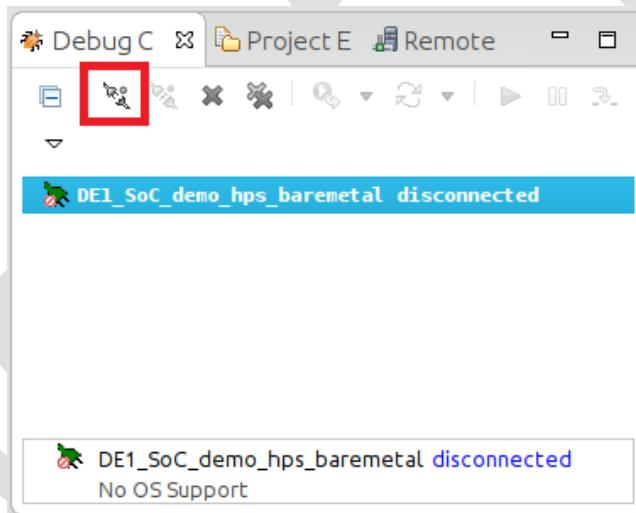

Figure 8-38. Debug Control View
31. In the "Debug Control" view, click on the "DE1\_SoC\_demo\_hps\_baremetal" entry, then click on the "Connect to Target" button, as shown on Figure 8-38. Our debug script will load and execute the preloader, then it will load and wait at our application's "main()" function.